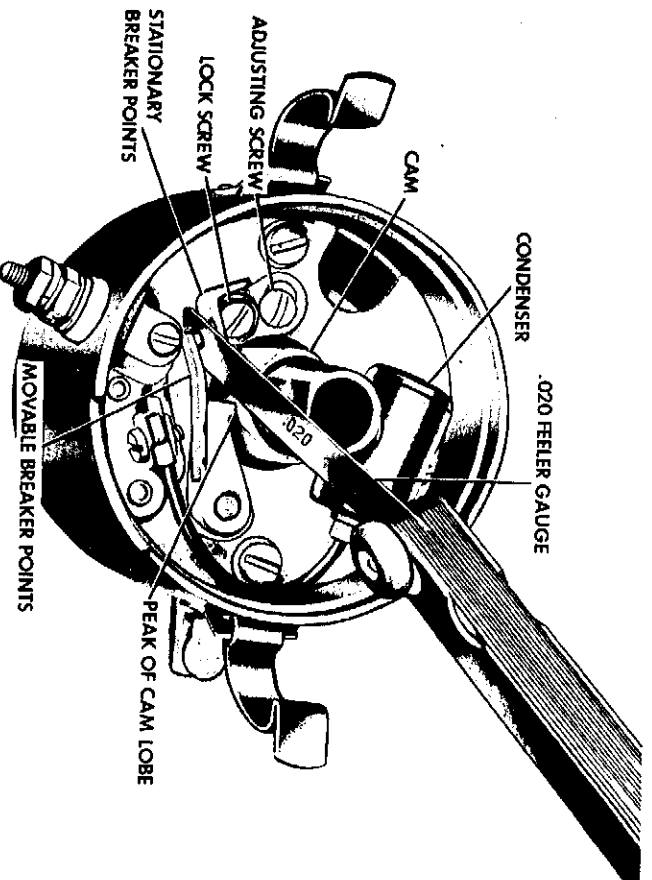

Figure 67
3. Crank the engine over slowly until the block on the movable distributor point is in contact with the peak of the lobe on the distributor cam, Figure 67.
4. Check the distance between the two distributor points with a feeler gauge; the correct point gap is .020 inch. To decrease point gap, turn the adjusting screw clockwise, Figure 67. To increase point gap, turn the adjusting screw counter-clockwise.
Remove the distributor cap, rotor and dust shield, Figure 67. Note the position of the ignition points. If the points are adjusted correctly, they will be just starting to open.